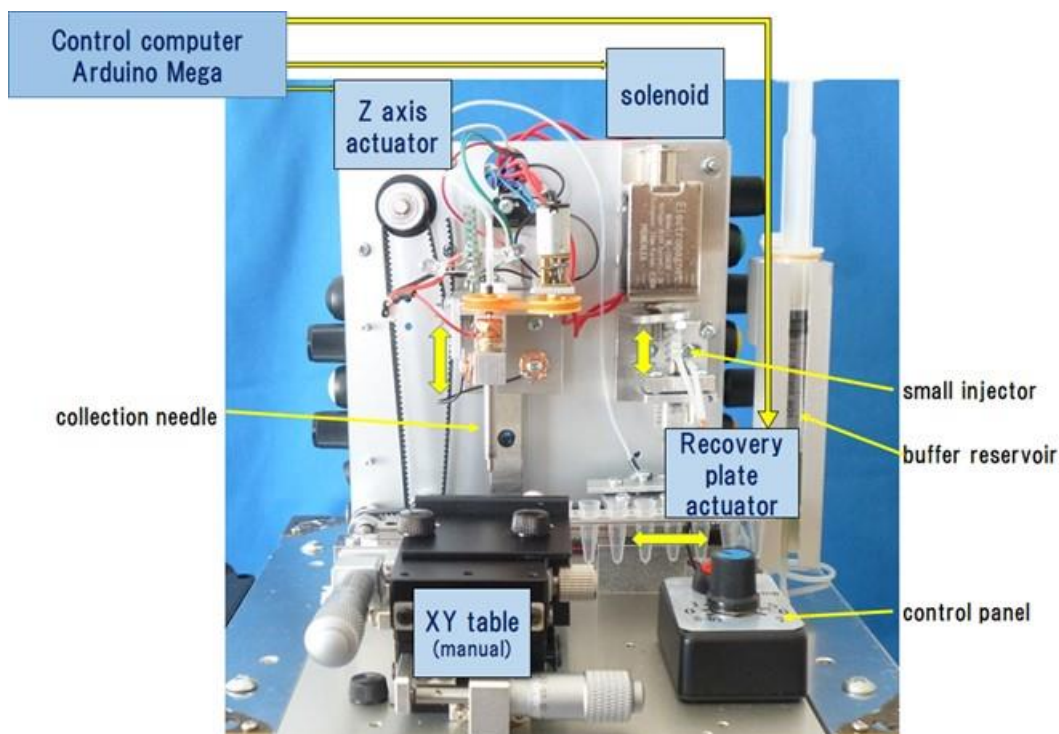

Figure 2-1 Configuration of the moving part
2.1.1 System configuration: The configuration of the mechanical part can be seen in figure 2-1. It consists of the Z axis actuator to move the arm with a collection needle, the recovery plate actuator, the buffer solution ejecting system with a solenoid, and XY table to move sample holder.